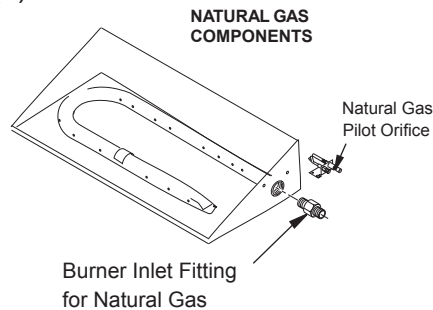

Figure 7 - Burner Inlet Fitting and Pilot Orifice
This appliance can be used with Propane/LP gas or Natural Gas. It is shipped from the factory adjusted for use with Natural Gas. Main burners are equipped with fixed orifices, located at the inlet of the burner pan (see Figure 7).
- Unthread control valve and burner inlet fitting from burner tube by turning valve counterclockwise (see Figure 7).
Disconnect the pilot supply tube from the pilot (See Figure 7). Replace the pilot orifice with the Propane/LP pilot orifice included with the Gas conversion kit. Retain the removed orifice for future use.